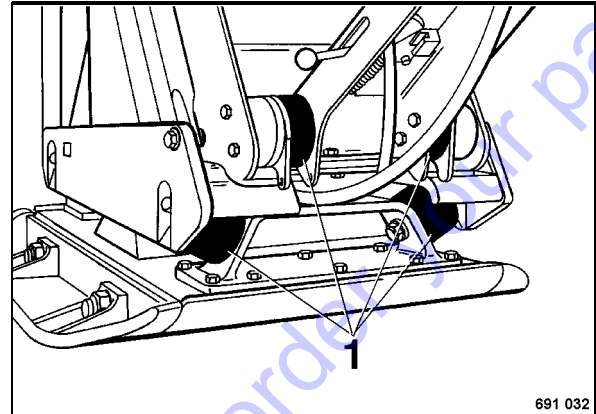

Fig. 53
- Check all rubber buffers 1 (Fig. 53) for cracks and damage and replace immediately if damaged.